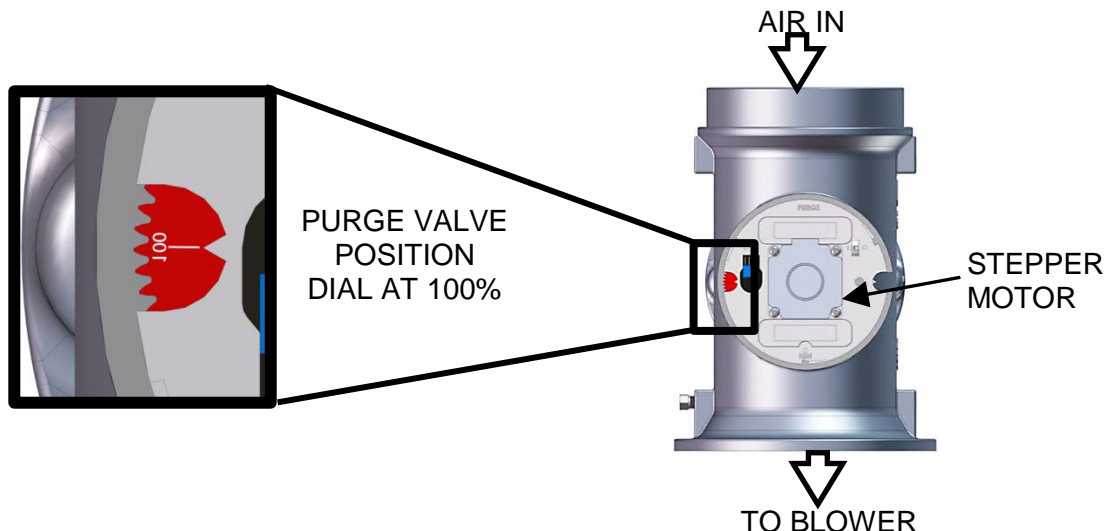

Figure 3-4: Air/Fuel Valve in Purge Position
- b. The Air/Fuel Valve rotates to the full-open purge position and closes purge position switch. The dial on the Air/Fuel Valve (Figure 3-4) will read **100** to indicate that it is full-open (100%).